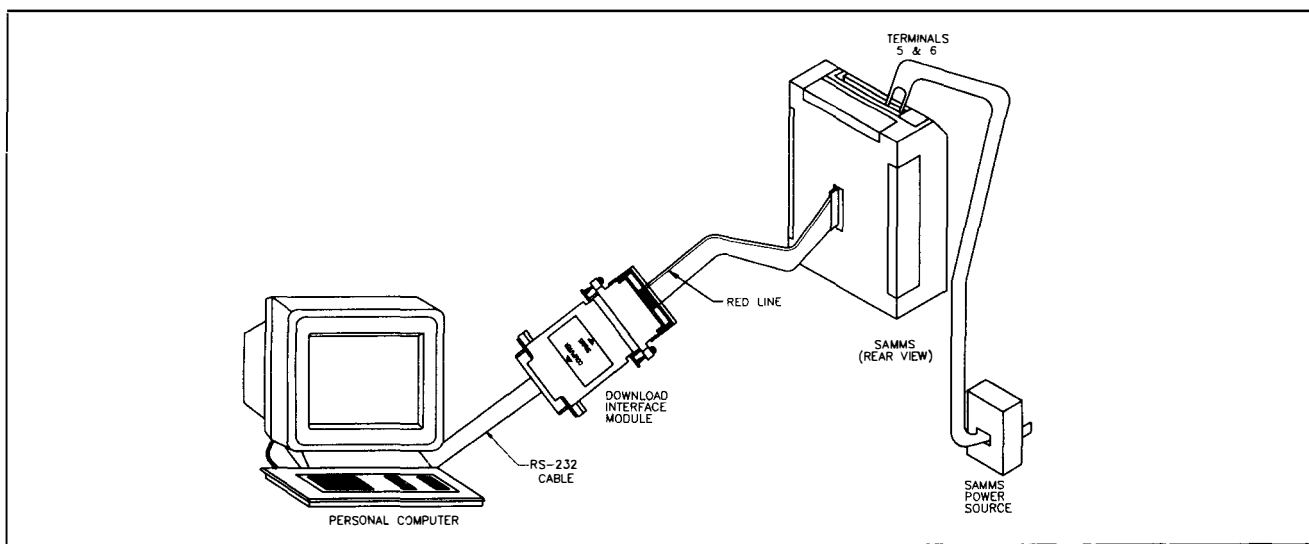

Figure 3-3. SAMMS Communication Setup
1. Plug the SAMMS Download Interface Module to the communication port of the SAMMS and your PC as shown in Figure 3-3, with control power removed from the SAMMS.
2. Connect the Download Interface Module to your PC and SAMMS as in Figure 3-3.